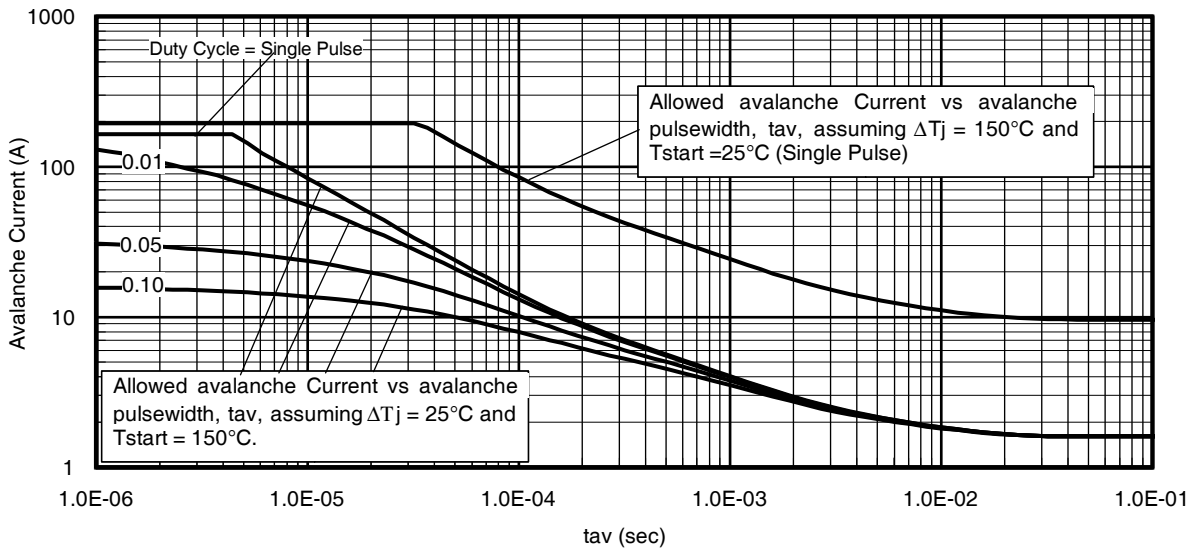

Fig 14. Typical Avalanche Current vs. Pulsewidth
- ④ $I_{SD} \leq 165A, di/dt \leq 430A/\mu s, V_{DD} \leq V_{(BR)DSS}, T_J \leq 175^\circ\text{C}$.
- ⑤ Pulse width $\leq 400\mu s$; duty cycle $\leq 2\%$.
- ⑥ $C_{oss\ eff. (TR)}$ is a fixed capacitance that gives the same charging time as C_{oss} while V_{DS} is rising from 0 to 80% V_{DSS} .
- ⑦ $C_{oss\ eff. (ER)}$ is a fixed capacitance that gives the same energy as C_{oss} while V_{DS} is rising from 0 to 80% V_{DSS} .
- ⑧ When mounted on 1" square PCB (FR-4 or G-10 Material). For recommended footprint and soldering techniques refer to application note # AN-994.
- ⑨ $R_{\theta j}$ is measured at T_J approximately 90°C .
- ⑩ Limited by T_{Jmax} , see Fig. 14, 15, 22a, 22b for typical repetitive avalanche performance.
- ⑪ $R_{\theta JC}$ value shown is at time zero.
Notes on Repetitive Avalanche Curves, Figures 14, 15:
7. ΔT = Allowable rise in junction temperature, not to exceed T_{jmax} (assumed as 25°C in Figure 14, 15).